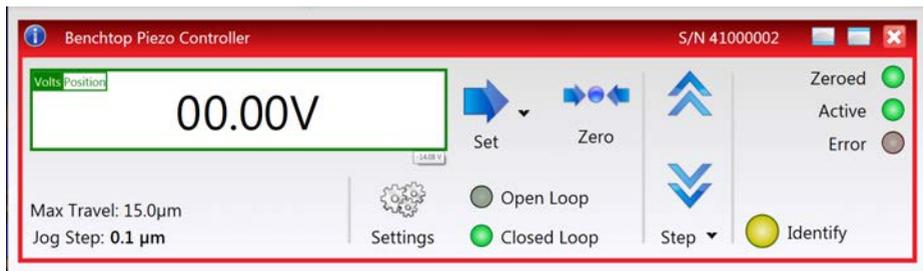

Fig. 4.1 Typical User Screen
- 1) Power up the hardware, and wait until the BPC301 has finished booting up, then run the software - Start/All Programs/Thorlabs/Kinesis/Kinesis. The software registers automatically the units connected on the USB bus and displays the associated GUI panels as shown in Fig. 4.1.